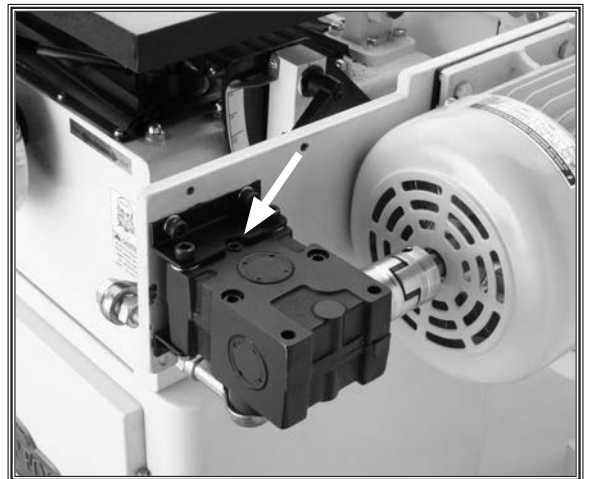

Figure 21. Checking gear box oil level.
3. Remove the oil fill plug on top of the gear box (**Figure 21**) and check the oil level.